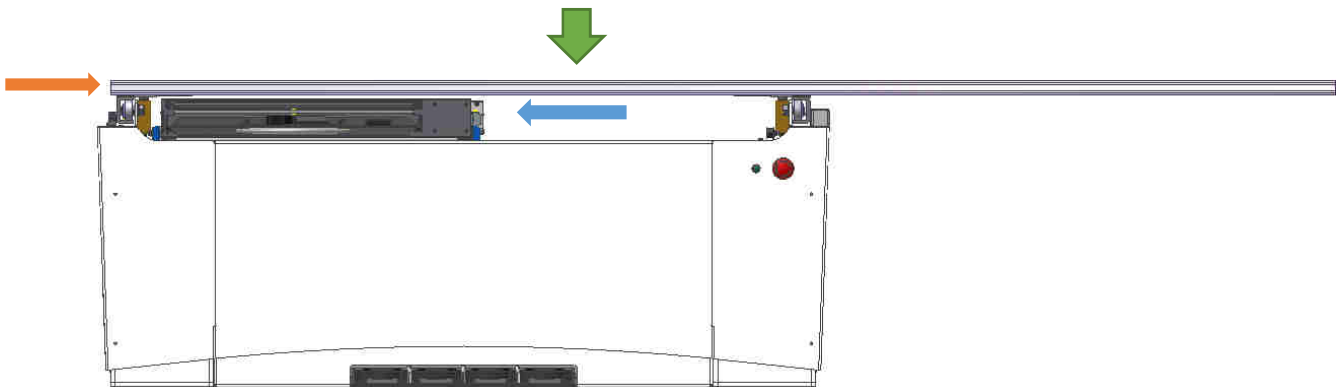

Figure 4-2
- Ascent and descent of the patient (see Fig. 4-2)